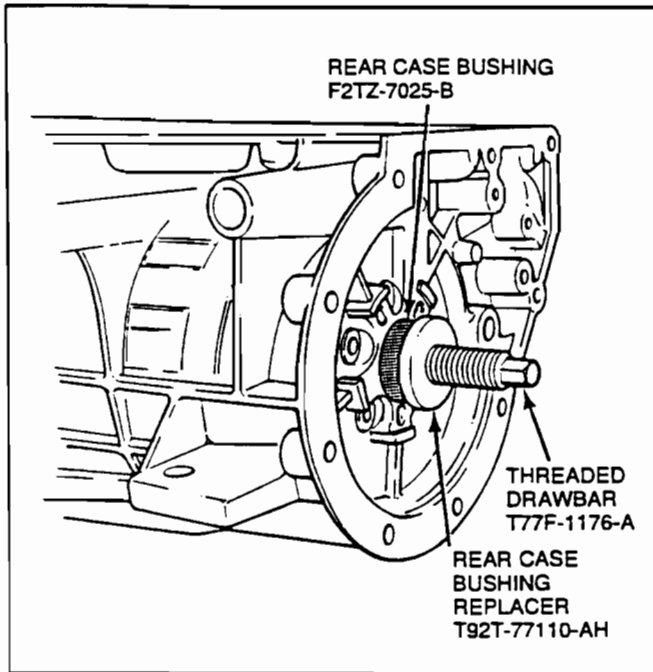

Figure 13
4. Place the portion of the tool with the rear case bushing into the rear of the case over the Drawbar as shown in Figure 13. Attach washer and nut to Drawbar and hand tighten.